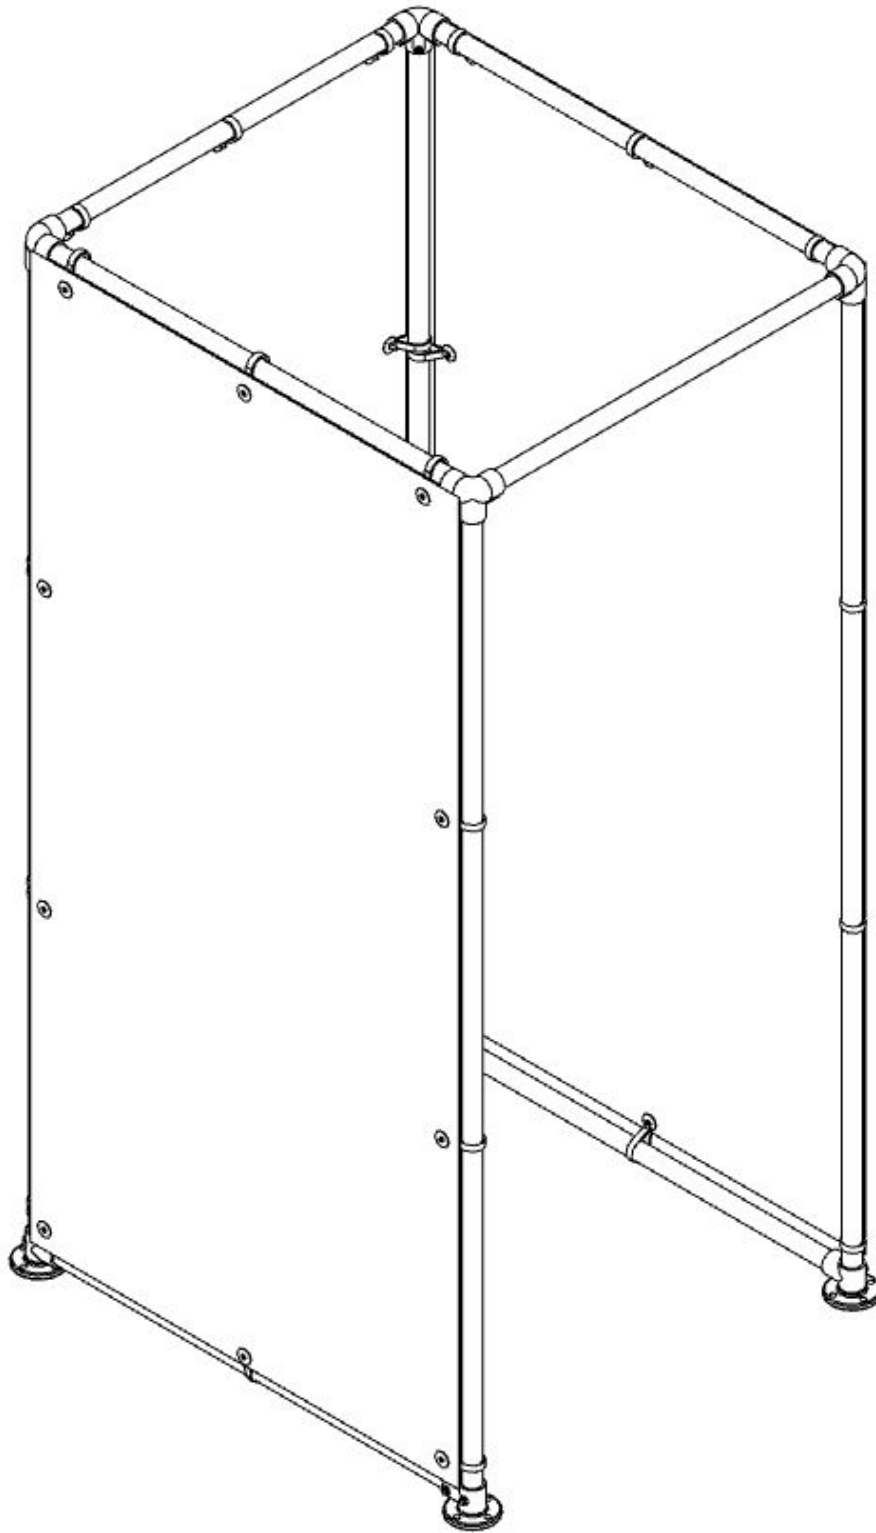

FIGURE 12
5. Attach all remaining side and rear panel clamps flat side towards the panel. **SEE FIGURE 12.**